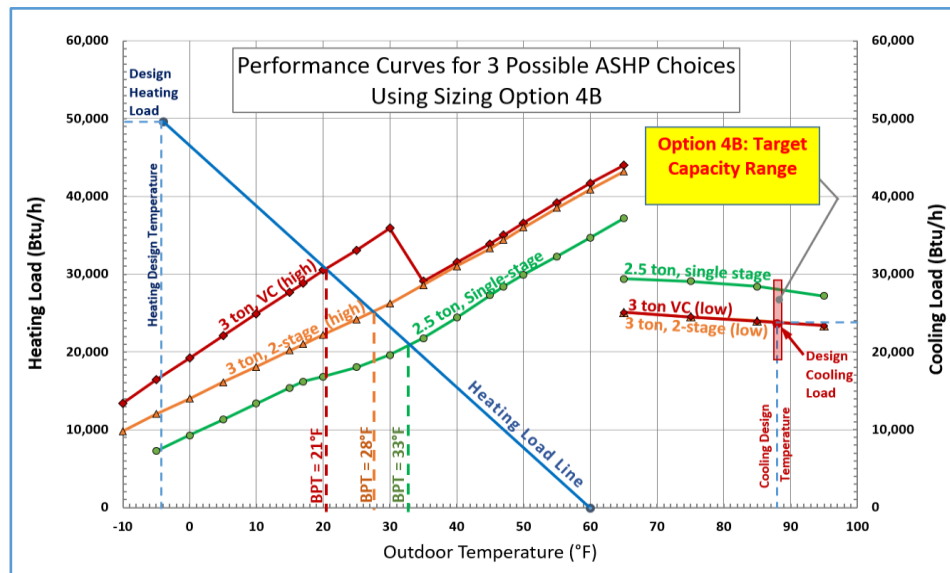
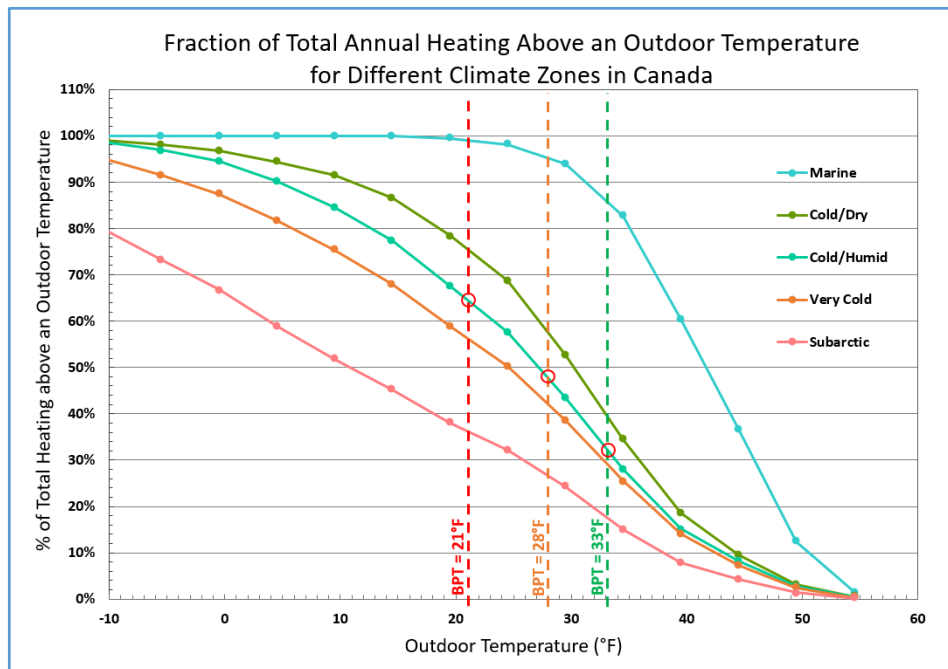

Figure 21: Performance Curves and Balance Point Temperatures for 3 Possible ASHP Choices
Figure 22: Fraction of Total Annual Heating Curves for Five Climate Zones in Canada
The thermal balance point temperature (t-BPT) can be estimated by superimposing a plot of the ASHP heating capacity(ies) curve (using information from the manufacturer’s extended performance tables at different outdoor temperatures) onto the heating load line chart from Step 3 as shown in Figure 21. Use the maximum capacity information whenever it is available. The t-BPT is the temperature at which the heating load line intersects the ASHP performance curve.
- For each ASHP being compared, determine the thermal balance point temperature (t-BPT) by developing a performance curve for each ASHP and the load line for the house (or area of the house being considered) as illustrated in the example in Figure 21;
- Using the “*Total Annual Heating Fraction*” chart provided in Figure 22, determine the fraction of total heating delivered by each ASHP option above their t-BPT for the climate zone of the installation site;
The fraction of total annual heating that occurs above a given outdoor temperature is modelled for five different climate zones in Canada and is shown graphically in Figure 22.
- The fraction of total annual heating provided is indicated by the intersection of the t-BPT line with the climate-zone curve for the house location. Red circles indicate the heating fractions for the three ASHPs shown in Figure 22 in “Cold-Humid” climate zone locations.
Note that there are a number of factors that will affect the actual heating fraction compared to the value estimated using Figure 22:
Three ASHP systems (i.e., single-stage, two-stage and variable capacity models) have been short-listed using “Sizing Option B: Balanced Heating and Cooling” for a house located in the “Cold-Humid” climate zone. The heating and cooling performance curves for the three systems are shown in Figure 21 for reference. The following analysis provides estimates of the relative heating performance of each ASHP under consideration.
Using the thermal balance point temperature (t-BPT) for each system (see Figure 21), the “Fraction of Total Annual Heating” that can be delivered above the t-BPT can be estimated using the Chart in Figure 22 for the “Cold-Humid” climate zone. The results are summarized below: